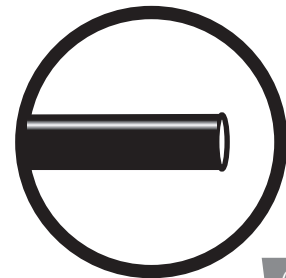

fig. 26
- a. Check the air line connection by deflating the spring and removing the line by pulling the collar against the fitting and pulling firmly on the air line. Trim 1" off the end of the air line. Be sure the cut is clean and square (see fig. 26). Reinsert the air line into the push-to-connect fitting.
2. If the preceding steps have not resolved the problem, call Air Lift customer service at (800) 248-0892.